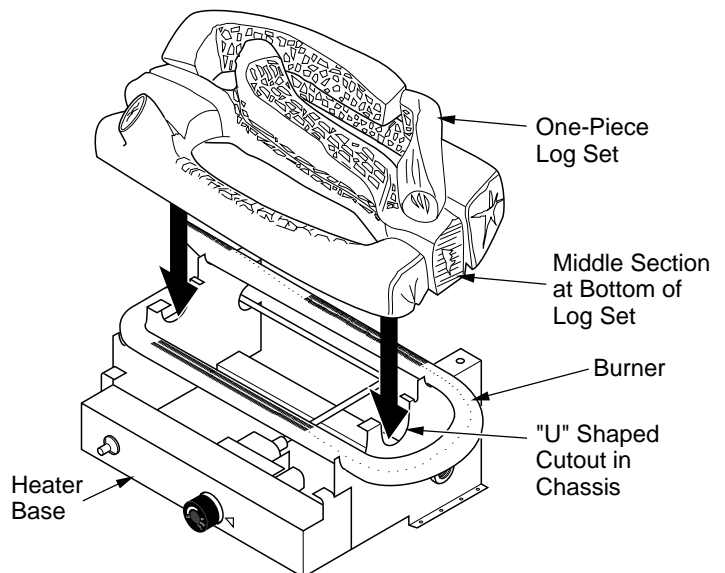
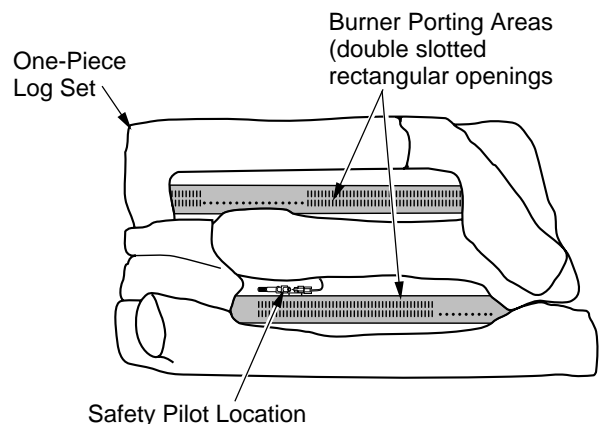

Figure 15 - Installing One-Piece Stove Log Set
Figure 16 - Top View of One-Piece Log Set on Gas Log Heater
8. Set one-piece log on heater base as shown in Figure 15. Make sure middle section at bottom of log is seated into "U" shaped cutout in center of heater base. Log will fit securely on base. **IMPORTANT:** Make sure log does not cover any burner ports and does not touch the stove cavity (see Figure 16).
9. Fasten back panel to stove with six (6) M6 x 1.20mm bolts and washers. Make sure product identification label is located on the outside lower left-hand corner.